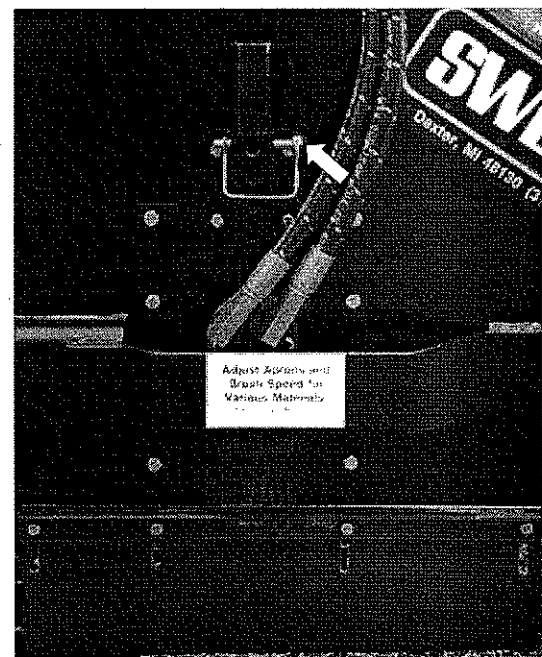

figure 11
- If the the brush pattern is too wide, remove the pin (figure 11) and use a higher set of holes.
- If the brush pattern is too narrow, remove the pin (figure 11) and use a lower set of holes.